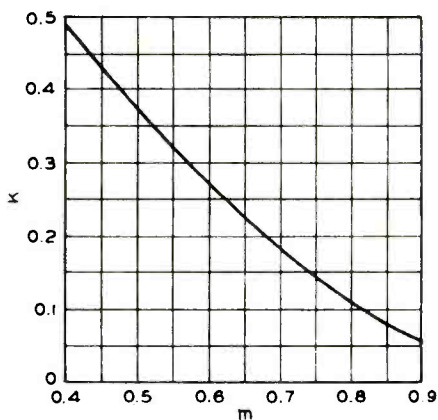
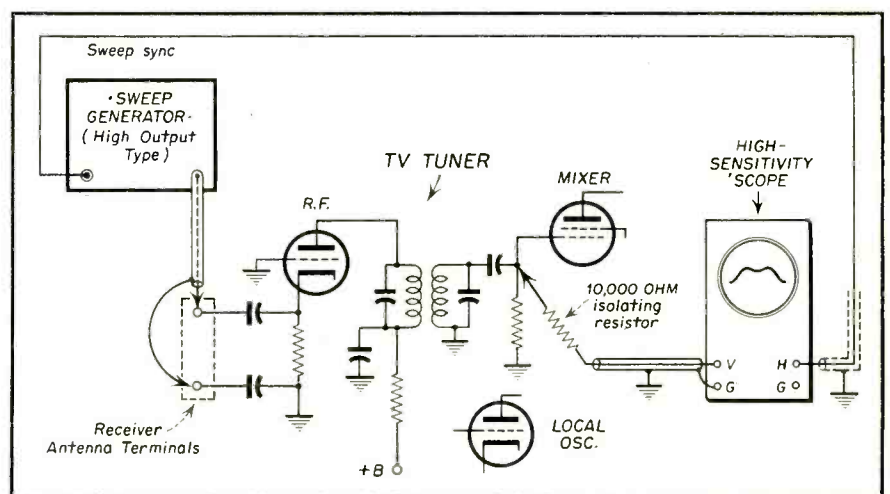

Fig. 5B. (R) After determining "m" for the section, use this value of "m" to locate the value of "K" on the second curve.
Fig. 4. Sweep generator and 'scope connections for checking alignment of TV tuner.
Figure 4 shows the circuits and simplified formulas for the end sections and the intermediate sections. The end sections have a value of "m" equal to 0.6, and the value of "m" for the intermediate sections is obtained from Fig. 5A. The function $1-m^2$ is $\frac{4m}{4m}$
also required for intermediate sections, but this expression has been written into the equations as "K", the values of which can be obtained from Fig. 5B.
Fig. 4. Formulas are for components in a low-pass filter. Any number of intermediate sections may be inserted between the two end sections, but from one to four are generally employed. L and C are expressed as henrys and farads. R is the characteristic resistance of the transmission line. f_{co} , in cycles per second, is the design cutoff frequency for the entire filter. The matching factor "m" is obtained from Fig. 5A, and K is given in Fig. 5B.
2. Do not attempt tracking of a television receiver front end if you do not have better than average equipment. *Figure 4* illustrates how the sweep generator and the oscilloscope are connected for tracking the r-f—mixer—oscillator stages. This is the recommended procedure of many manufacturers, but this requires a sweep generator with high output and a 'scope with better than average sensitivity. A cheaper variety of 'scope having poor sensitivity will give no indication whatsoever when connected to the mixer grid, since the amplitude of the signals here is very small. The 10,000 ohm isolating resistor should be used in series with the 'scope lead so that the latter will not load down the mixer grid input.